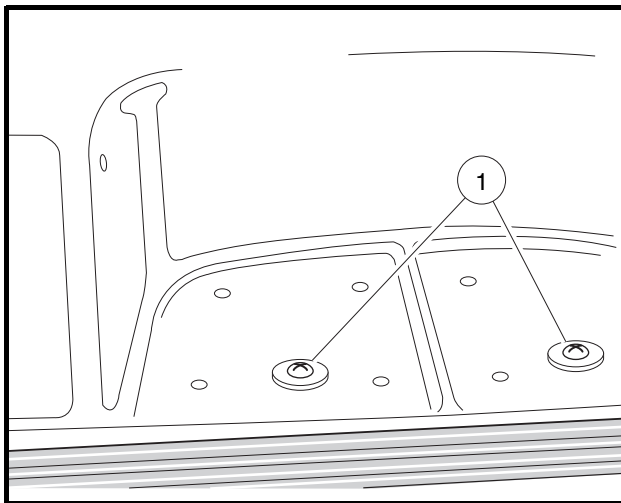

Figure 4-7 Rear Body
5. Remove two screws (1), washers and lock nuts located at the rear of the vehicle (**Figure 4-7, Page 4-7**).
- 1.2. Tighten two screws (1) and lock nuts located under rear body to 20 in-lb (2.3 N·m) **(Figure 4-7, Page 4-7)**.